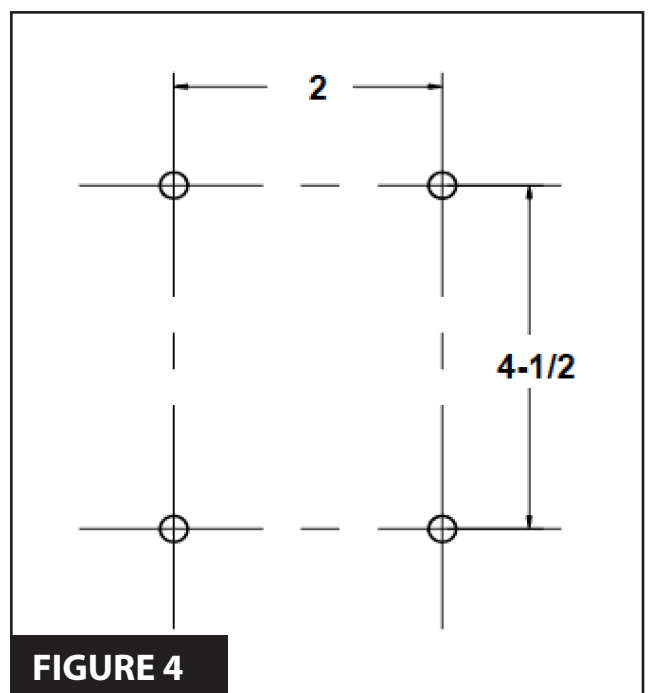

FIGURE 4
- 4.** With the chain tight and straight and the operator's output shaft parallel with the door shaft, trace the mounting slots (holes) on the mounting surface, then lower the operator to the floor. The GJ operator gear box mounting hole pattern is shown in **Figure 4**.